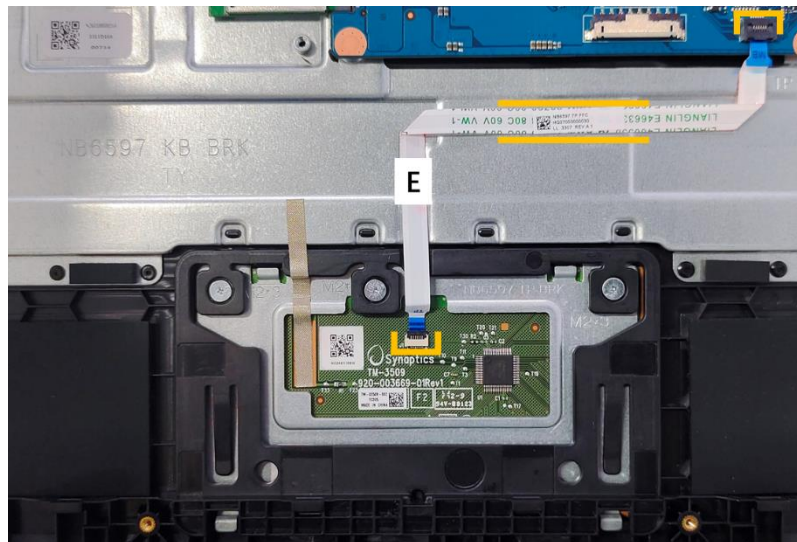

Figure 3-111. Replacing the Touchpad Module
5. Connect the touchpad FFC (E) to the touchpad module and mainboard connectors. Then press the middle portion of the FFC to ensure its underneath adhesive is properly attached to the top assembly (Figure 3-111).